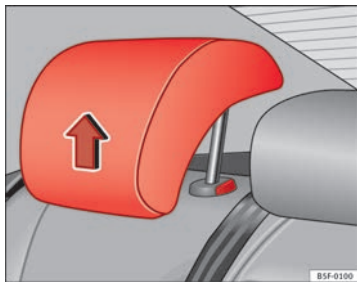

Fig. 5 Head restraints in correct position
- One position for **use** (head restraint raised) ⇒ Fig. 5. In this position, the head restraints are used normally, protecting passengers along with the rear seat belts.